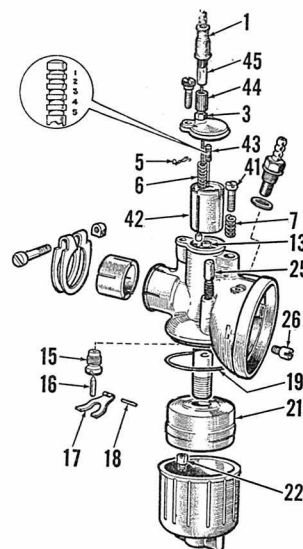

Fig. V2 — Exploded view of Villiers S.12 carburetor.
**VILLIERS S.12 CARBURETOR.** Fig. V2 shows exploded view of Villiers S.12 carburetor. Low idle speed is adjusted by turning collar (44) and adjustment is locked by turning jam nut (3). Main jet needle (43) is provided with 5 grooves at upper end as shown in the inset. Clip (5) is po-